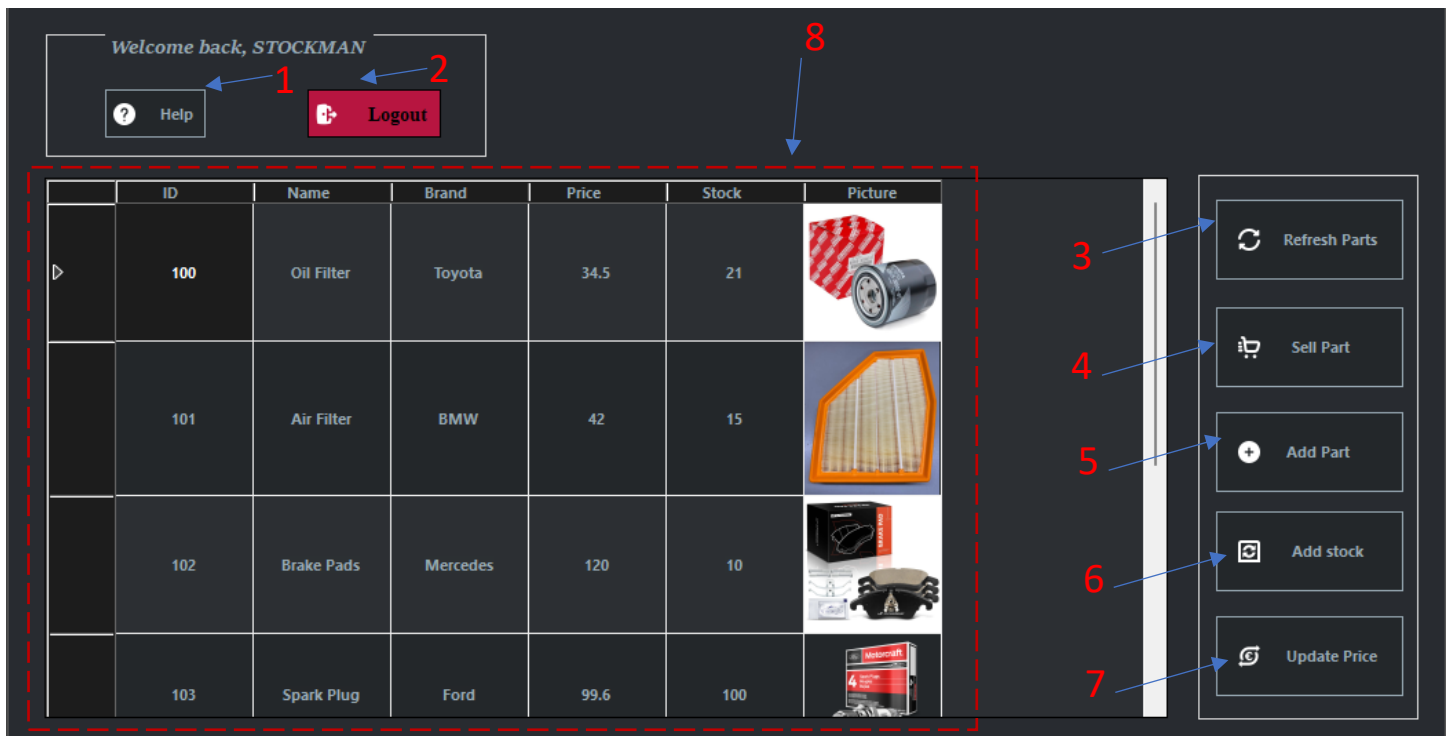
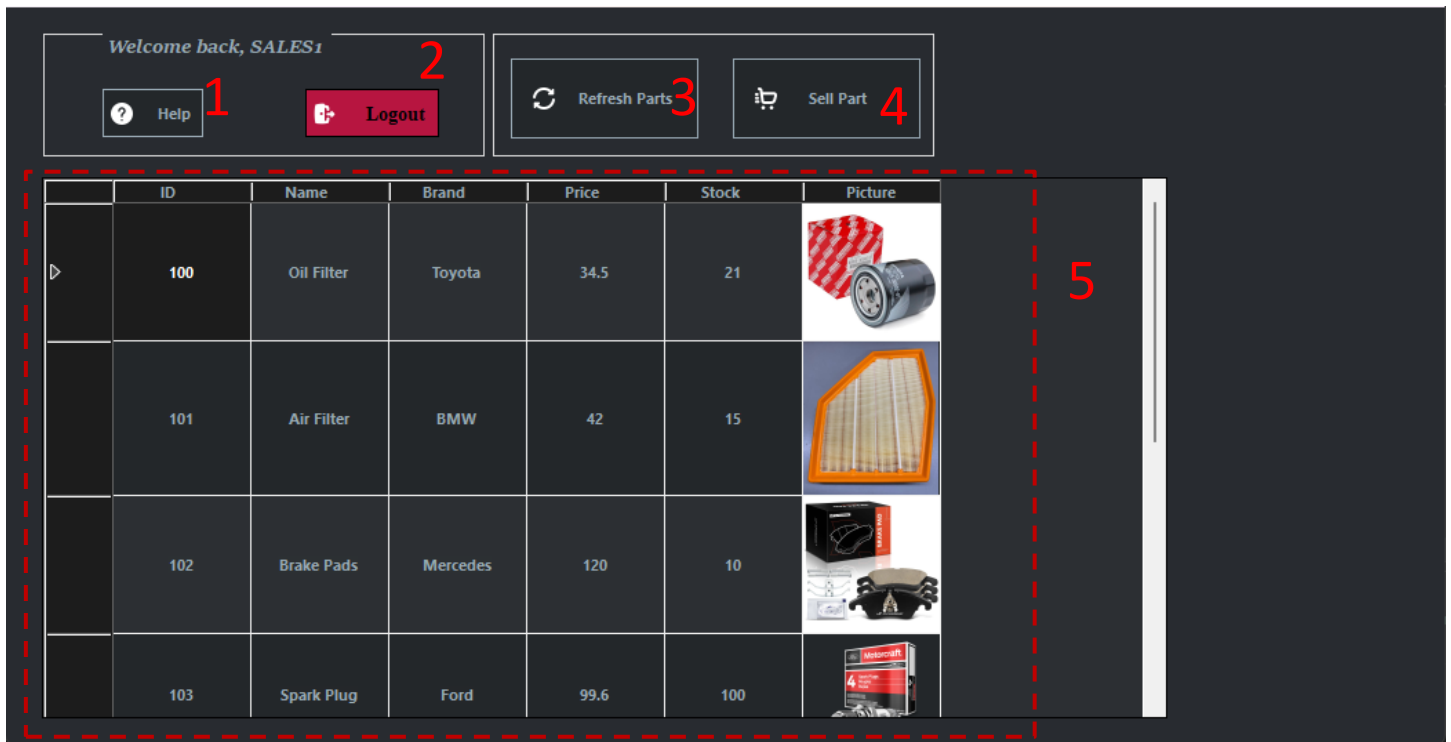

Fig.3.
Figure 4.
1. On the Menu toolbar, click **Add New Part (Fig 3. Button 5)**
6. Back on the Menu, click **Refresh part List (Fig3 button 3)** to view your new part.
6. Back on the Menu, click **Refresh Product List (Fig3 button 3)** to view your new part.
1. On the Menu toolbar, click **Update Price** (Fig 3 button 3), then the following pop-up will appear:
6. Back on the Menu, click **Refresh Parts** (Fig 3 Button 3) to see the new price in the product list.
As a stockman, press the Fig 3 button 4 in order to initiate a transaction.
As a Stockman, press the button 4 from figure 3. As a Sales Clerk, press the button 4 from figure 4.
6. Back on the **Menu**, click **Refresh Product List**(Fig 3 button 3 for Stockman, Fig 4 button 3 for Sales Clerk) to view your new part.